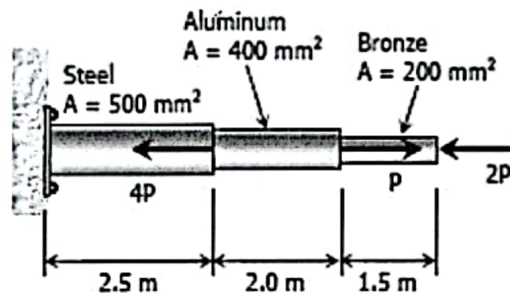

Fig. 1
|    | b) An aluminum rod is rigidly attached between a steel rod and a bronze rod as shown in Fig. 1. Axial loads are applied at positions indicated. Find the maximum value of P that will not exceed a stress in steel of 140 MPa, in aluminum of 90 MPa or in bronze of 100 MPa. | (20)  | 1    |